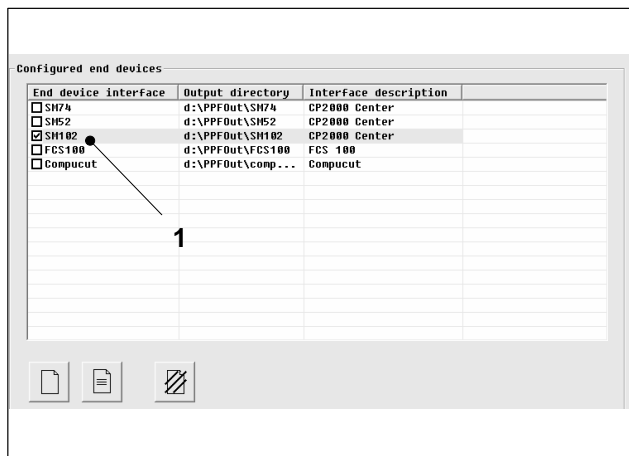

Fig. 26 List of the terminal interfaces
The list of terminal interfaces is still empty after you install Prinect Prepress Interface. You still have to define the desired terminals (see the "Setting up terminal interfaces" sub-chapter a few pages on). Fig. 26 shows several examples of terminal interfaces.
1. Select the terminal you wish to allocate to this process (SM 102 in our example). If there is a check in the box, the terminal is assigned (Fig. 26/1). If there is no check in the box, the terminal is not assigned.